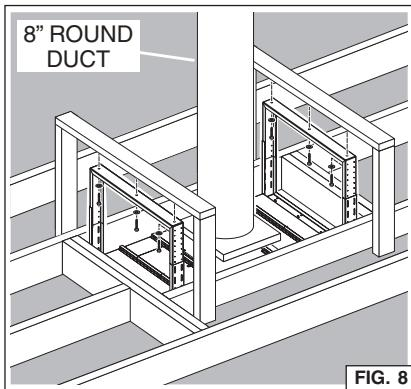

FIG. 8
4. At the blower discharge collar, connect ductwork that exhausts air to the outside discharge. Fig. 8.